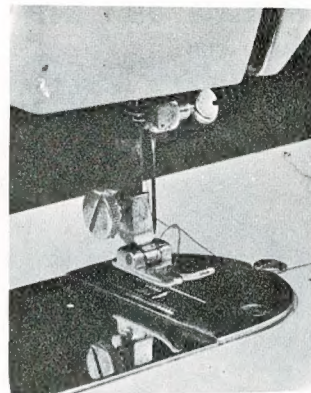

Fig. 11
After winding a fresh bobbin and threading the bobbin case (See Fig. 6, 7, & 8) hold the bobbin case latch. (D) with left thumb and forefinger. Keeping the protruding finger (E) topside toward the shuttle race notch (A), press the bobbin case around the stud of the shuttle body (C) until the finger enters in the shuttle race notch. This operation is easy--NEVER FORCE IT. Three or four inches of thread hanging free from the bobbin case will be brought up through the needle plate hole as shown in Fig. 11.
Hold the end of upper thread loosely and turn balance wheel toward you until the needle goes all the way down and comes back up. A loop (Fig. 11) will be formed from the lower thread which then can be pulled out straight. Place both thread ends under the presser foot and draw toward the back of the machine, leaving both threads three or four inches long.